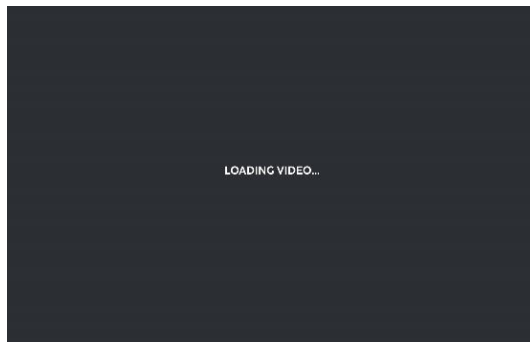

FIGURE 3-5
1. Turn on the R3 SCRUB PRO and note the 'LOADING VIDEO' screen on the LCD (Fig. 3-5).